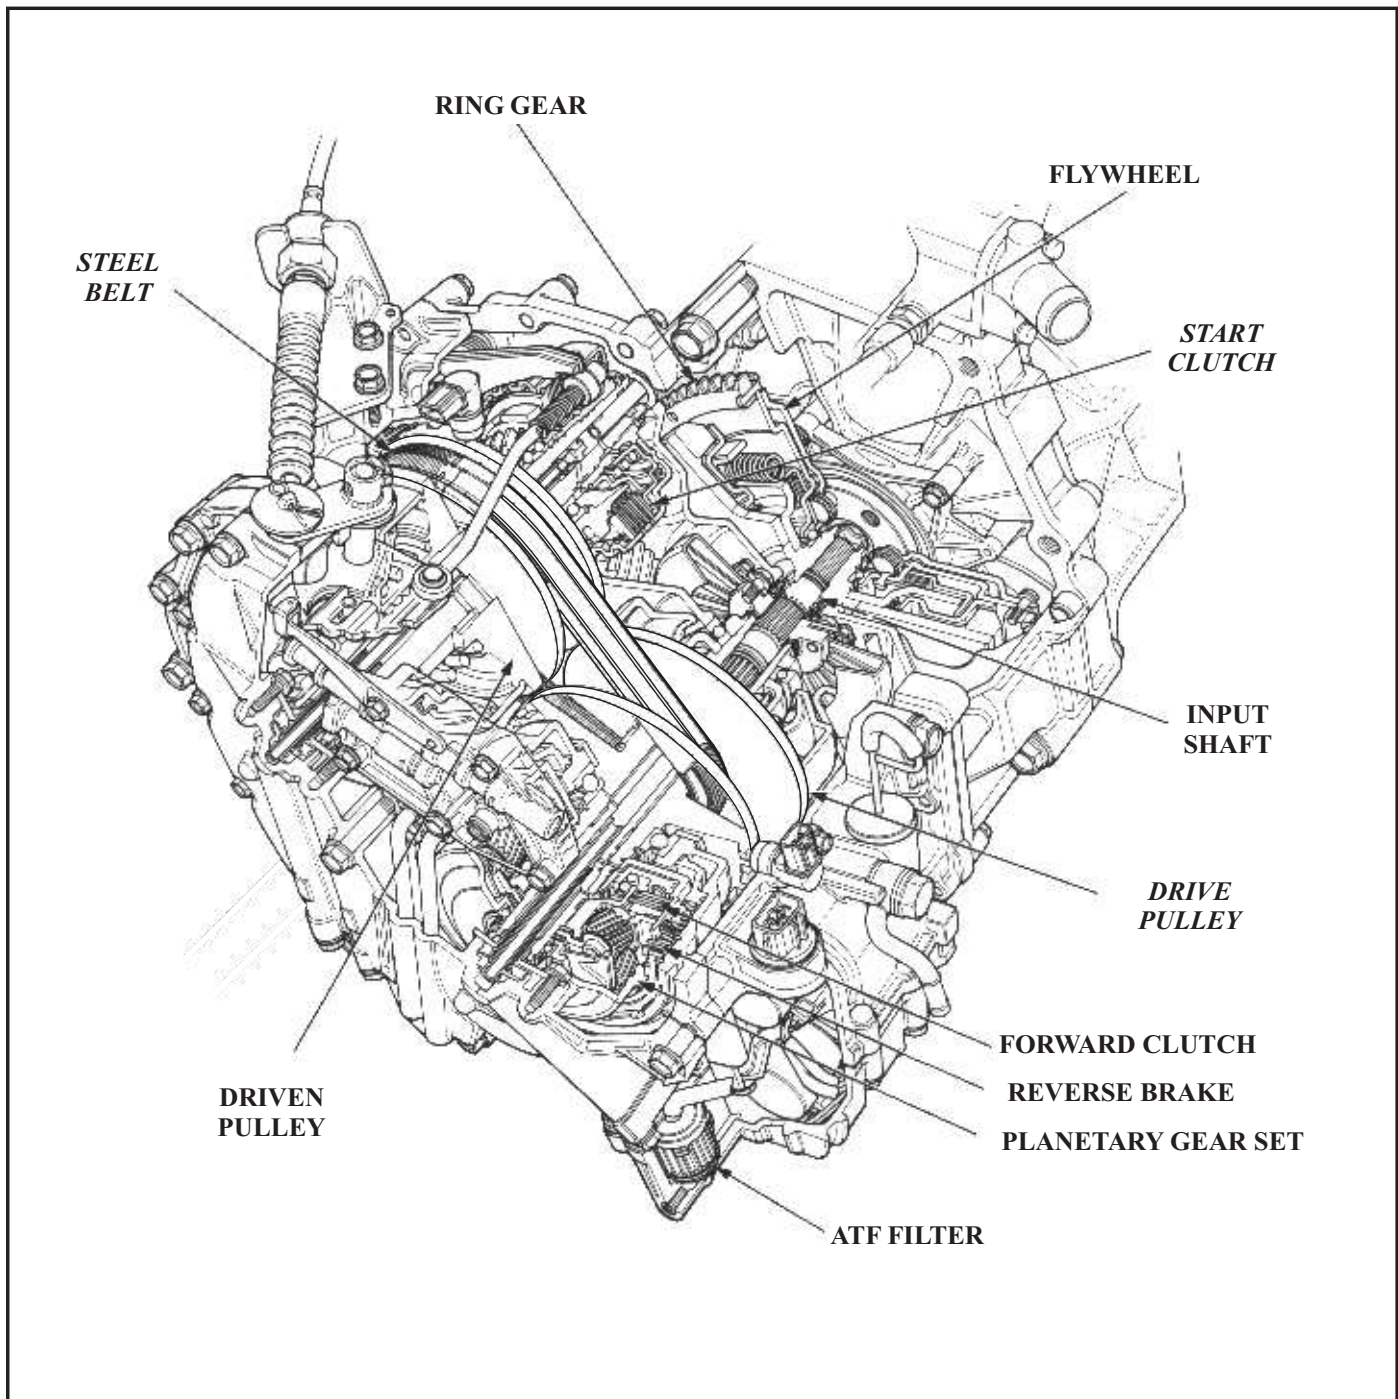

Figure 2
3. A leak in the Start Clutch Drum circuit (Figure 2).
4. A cracked Drive Pulley (Figures 2&3).
5. A stretched Steel Belt slipping in the pulleys (Figures 2&3).